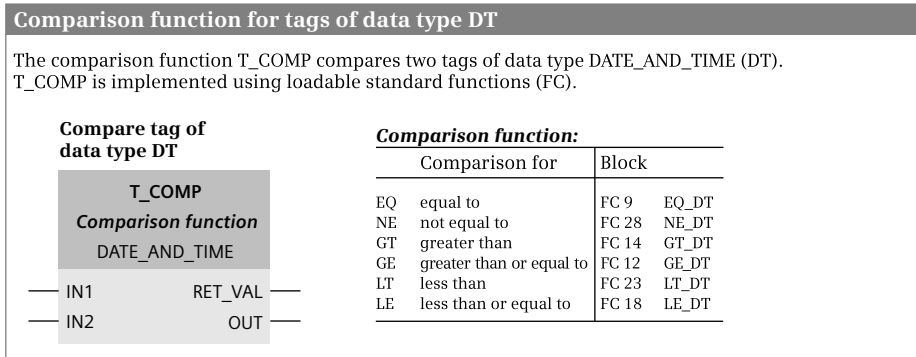

Fig. 13.6 Representation of comparison function for time data types
T_COMP compares two tags with data type DATE_AND_TIME (DT). The graphic representation is shown in Fig. 13.6. The comparison function T_COMP is implemented with loadable standard functions (FC), which are represented as an EN/ENO box in LAD and FBD and as a block call in STL and SCL with the comparison result as a function value.